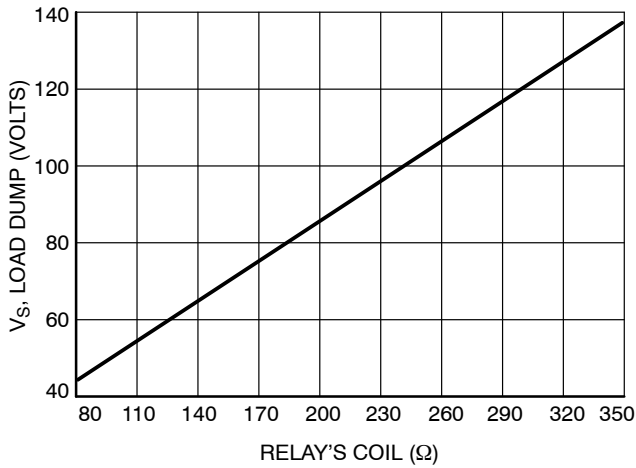

Figure 4. Load Dump Capability versus Relay's Coil dc Resistance
- For relay's coils/inductive loads higher than 80 Ω , see Figure 4.